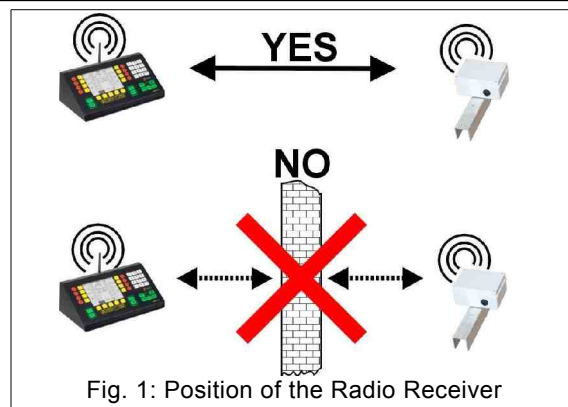

Fig. 1: Position of the Radio Receiver
- there are no visible obstacles between the Radio Receiver and the Command Console (Fig. 1);
2. Eliminate any obstacles (metallic structures, persons, equipment, etc.) between the Console and the Receiver (Fig. 1).